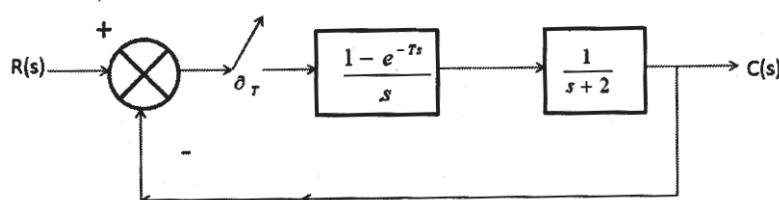

Figure 2
- Q3)** a) Determine the stability of closed loop system given in figure 2. [6]